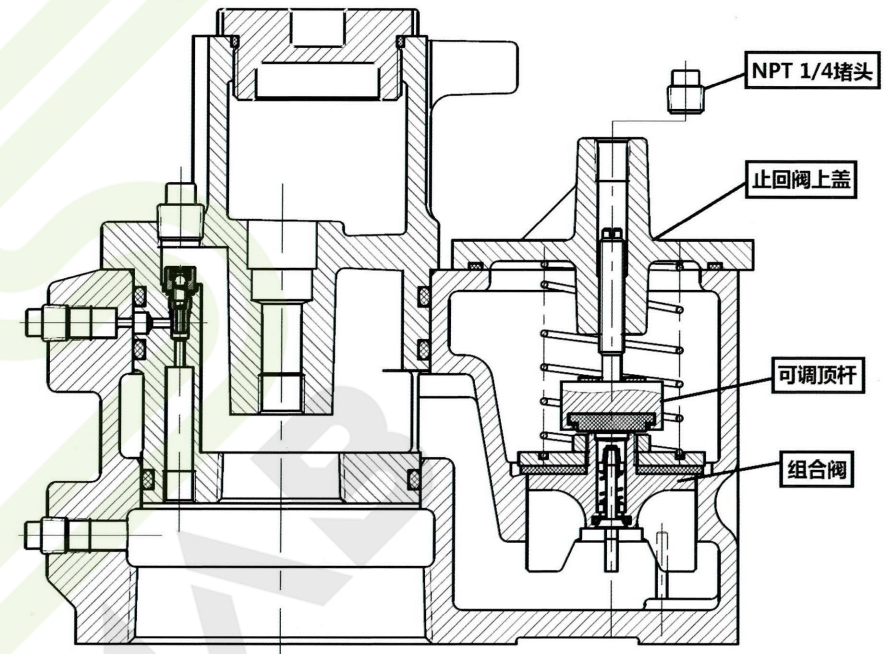

Figure 15 Closing the check valve
2. Remove protective plug and close pump check valve by turning the vent closing screw clockwise as far down as possible. ( See Figure 15)
1. Remove the protective plug and close pump check valve by turning the vent closing screw ( see Figure 15) as far down as possible. Remove the 1/4" NPT tank test port plug and attach tank testing equipment. Apply tank test pressure at tank test port.